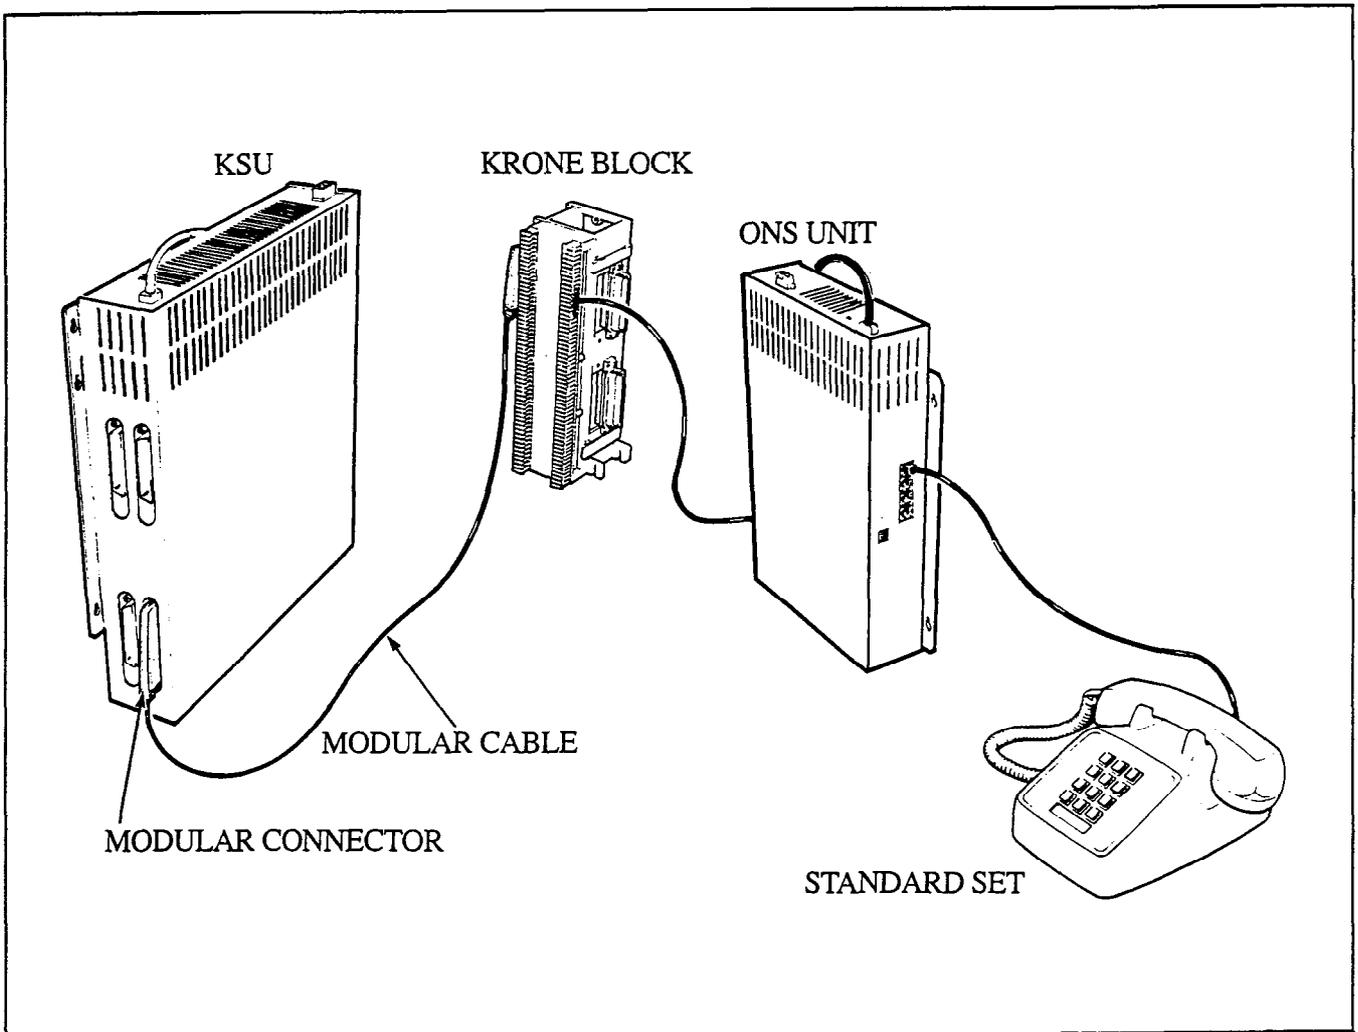

Figure 3-2: On Premise Unit Installation
- Step 1 Mount a main distribution frame (MDF) to the right of the KSU on the wooden backboard. Then, mount the ONS Unit to the right of the MDF with the four wood screws (refer to Figure 3-2).